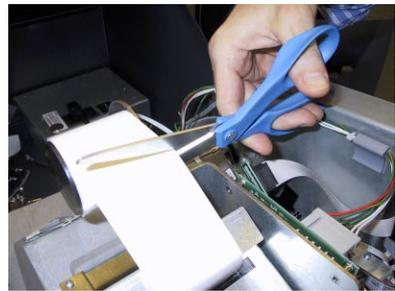

Figure 6-1. Cut paper between the roll and the printer feed path with scissors.
2. If paper remains on the roll, cut the paper between the roll and the printer with a pair of scissors, as shown in Figure 6-1.